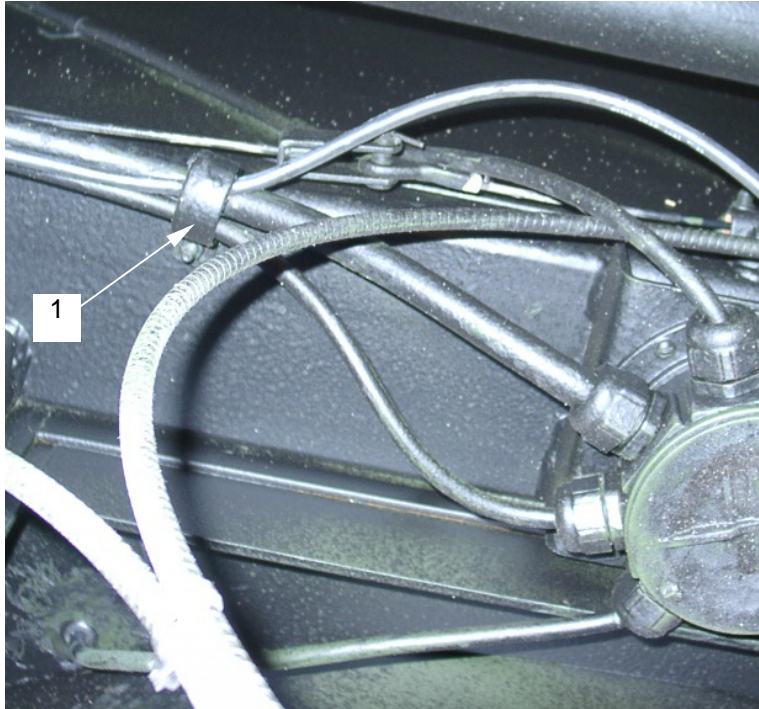

Figure 5. Wire Clamp
6. Loosen and remove wire clamps (**figure 5, item 1**).
8. Install new wire in wire clamps (**figure 5, item 1**).